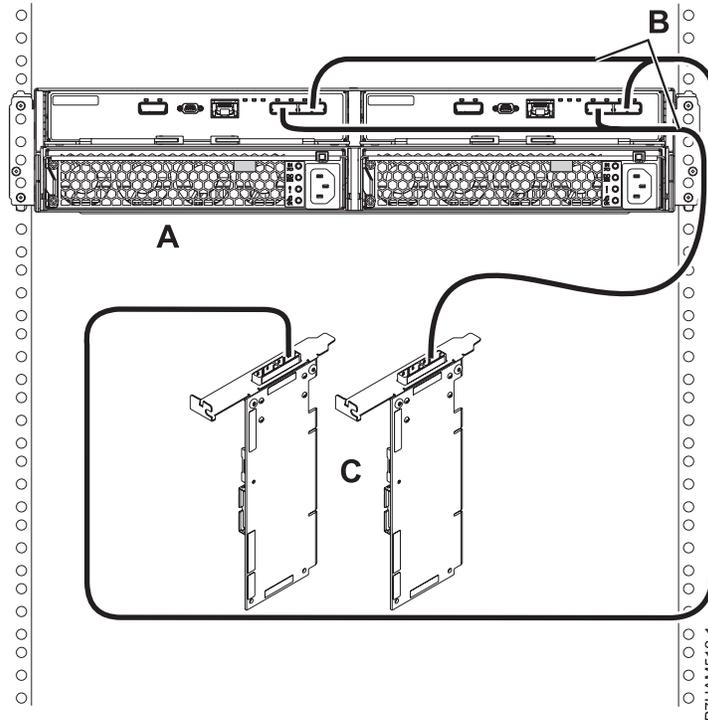

Figure 31. Mode 1 connection of one 58/87 disk drive enclosure by using YO cables to a SAS adapter pair
- k. Perform the mode 1 connection of one 58/87 disk drive enclosure (A) by using YO cables (B) to a SAS adapter pair (C) as shown in Figure 31 on page 28.